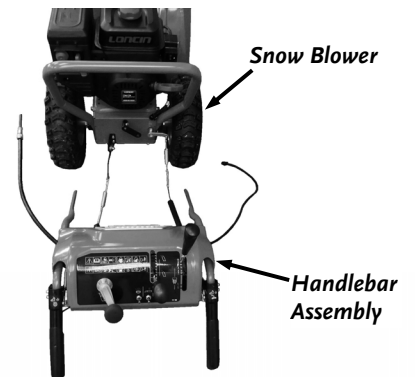

Figure 7
1. Position the handlebar Assembly behind the Snow Blower in a flat, clean area (Figure 7).